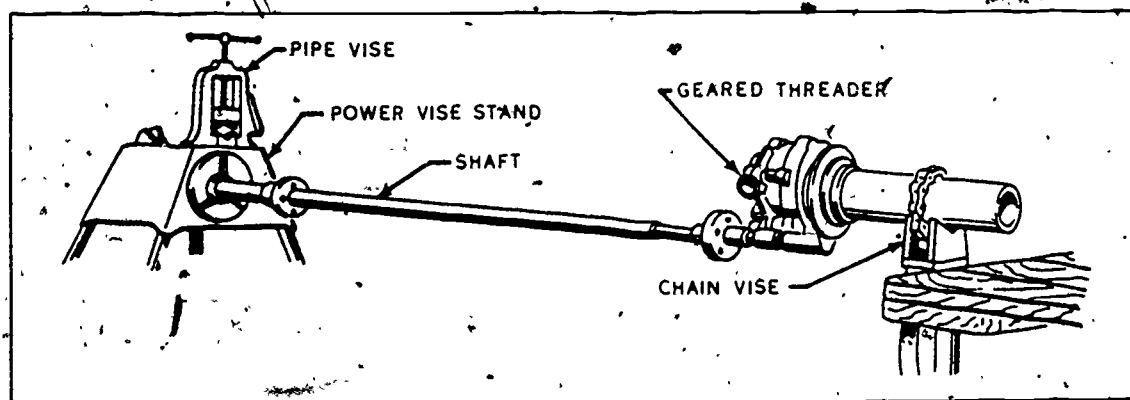

Figure 4-34. Cutting threads with a geared type threader and power vise stand.
**Geared Type Threader.** The combination geared type threader and power vise stand, shown in figure 4-34, is used to cut threads on pipe larger than 2 inches in diameter either in the field or shop. The
geared type threader is turned by power from the vise stand through a flexible shaft or a shaft with two universal joints. To thread pipe after the equipment is set up, as shown in figure 4-34, clamp the pipe to be threaded in the vise and let it extend far enough beyond the vise to fit into the threader. After the proper sized segments are installed in the threader it can be placed over the end of the pipe so that the segments strike or touch the pipe and are in proper alignment. Next tighten the setscrews on the reverse side of the pipe threader against the pipe so that the sleeve will remain stationary while the segments and the outer section of the pipe threader turn. In order to cut the proper amount of standard threads, the outer section has to be turned counterclockwise until the markings on the head are in alignment before it is placed on the pipe. When the threader is installed on the pipe, cut two or three threads by hand, and then apply power to finish the job.